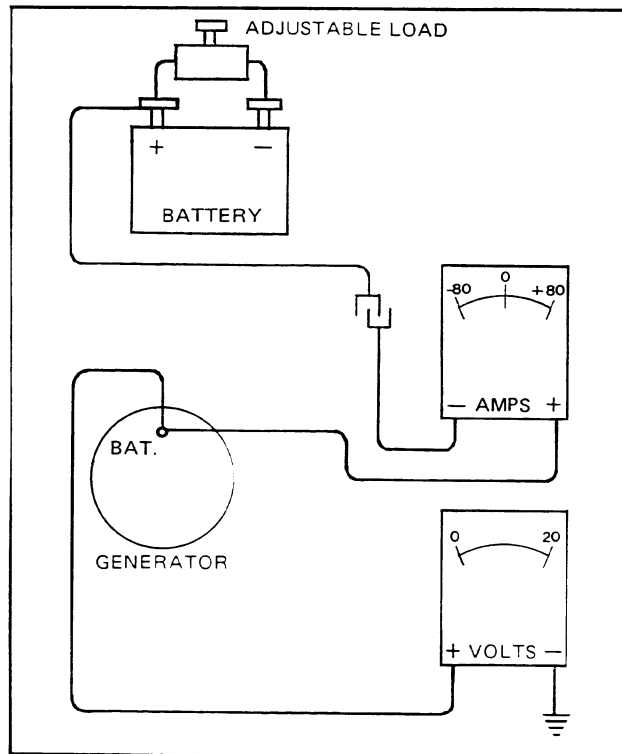

Figure 6D-4
4. Connect battery lead, fit a loading device across the battery terminals, i.e. an adjustable carbon pile. Refer Fig. 6D-4.
5. Connect the positive lead of a voltmeter to the 'BAT' terminal on the generator and the negative lead to a good ground on the generator body. Refer Fig. 6D-4.